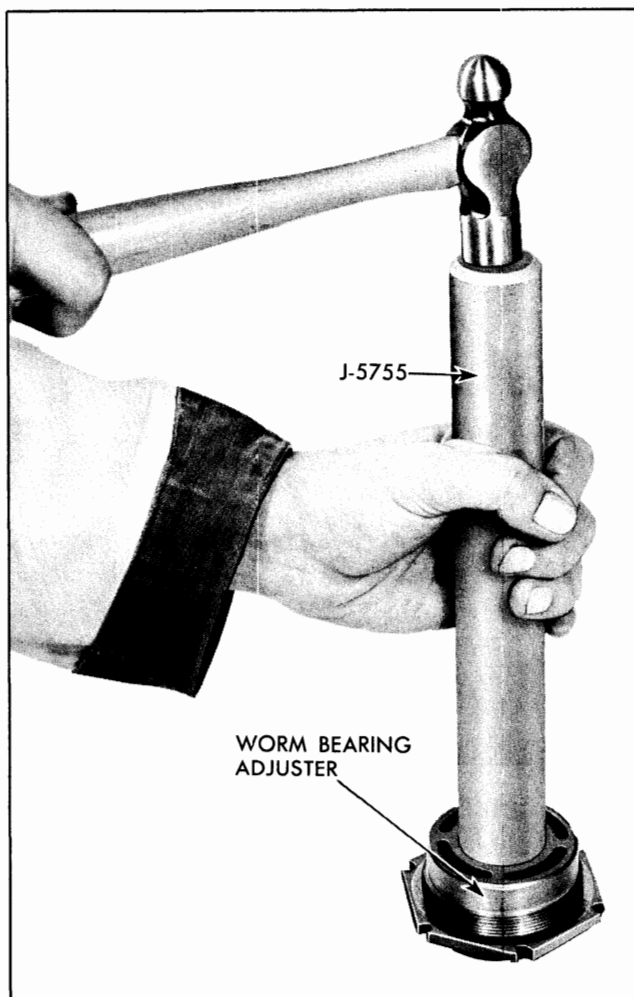

Fig. 9-38 Replacing Bearing Cup
2. Install bearing cup in worm bearing adjuster (Fig. 9-38) using tool J-5755.